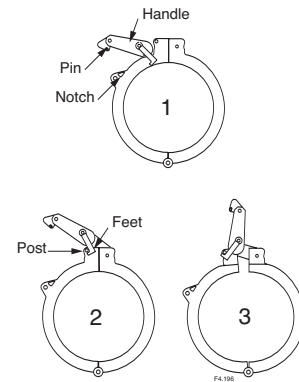

Fig. 1
1. Push the handle to the side to release the pin from the notch, then lift the handle. See Figure 1 Step 1.
2. Hook the "feet" of the handle behind the two posts and pry open one half of the clamp. See Figure 1 Steps 2 and 3.